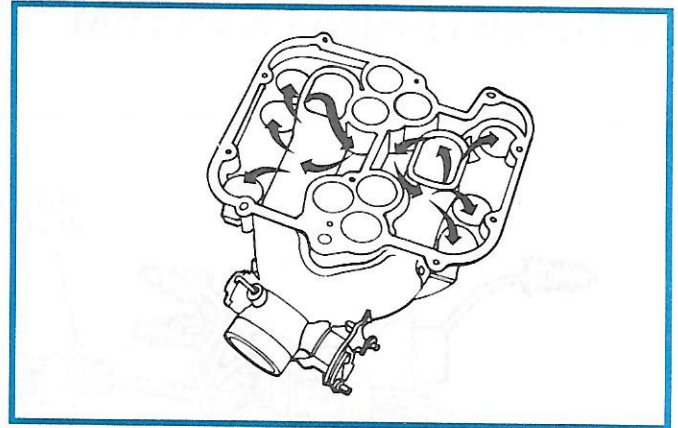

Figure 2-17, Manifold Airflow With IMTV Closed
- During normal vehicle acceleration and at cruising speeds (low torque conditions), the IMTV is closed (figure 2-17) and the intake manifold supplies a more conservative airflow pattern to the cylinders.